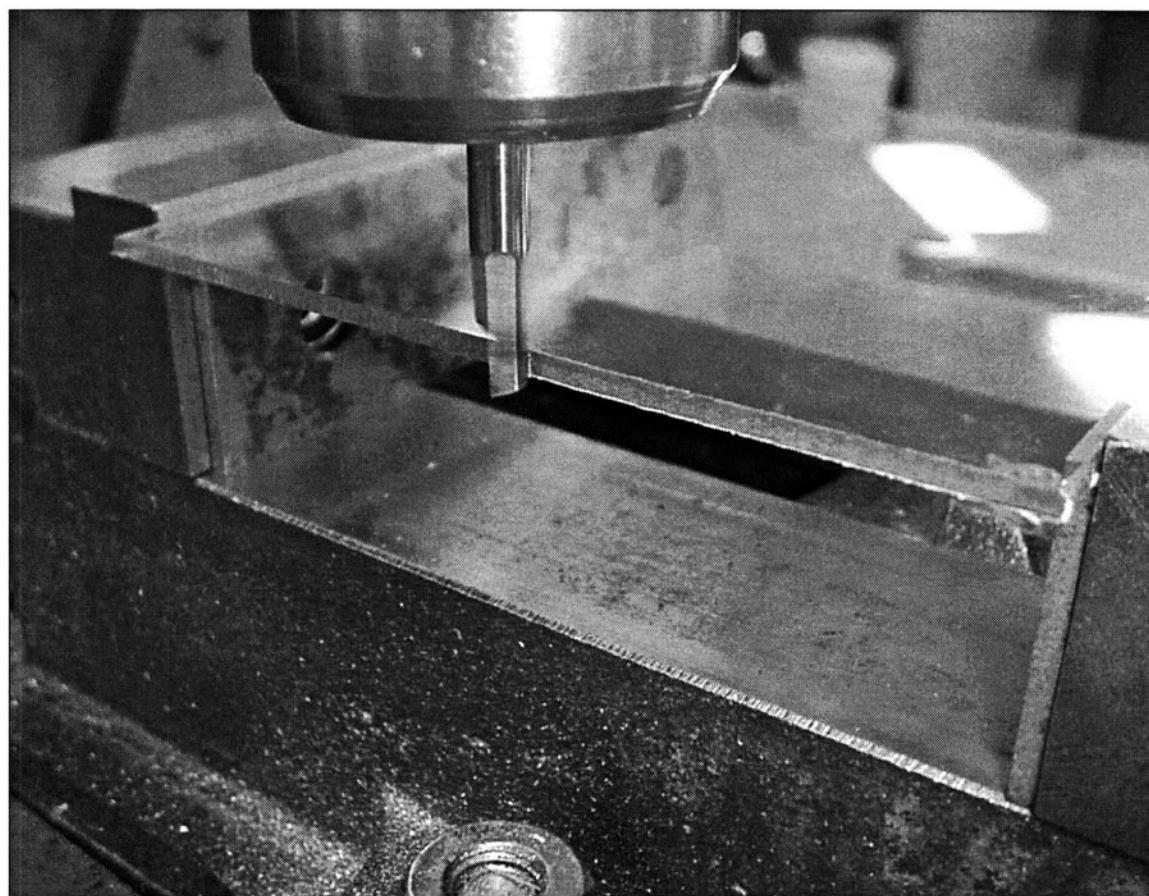

FIGURE 6-32 A single flute end mill can be used to side mill flimsy plates to eliminate the lifting forces generated by helical end mills.
47. Use single flute cutters in a milling machine to avoid lifting parts. (See Fig. 6-32)